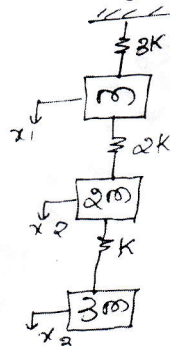

Fig.Q8(a)
- 8 a. Using Stodola's method determine the fundamental mode of vibration and its natural frequency of the spring mass system shown in Fig.Q8(a).